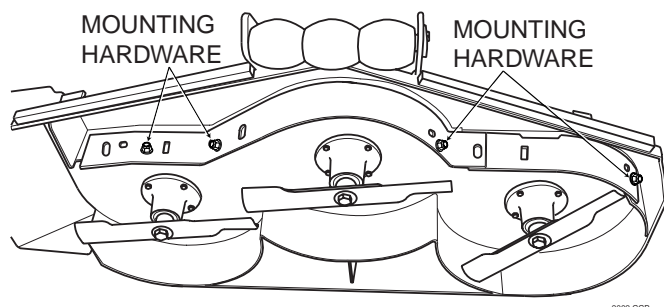

Figure 9. Custom Cut Baffle
2. Remove the hardware securing the Custom-Cut Baffle to the cutter deck. (See Figure 9).